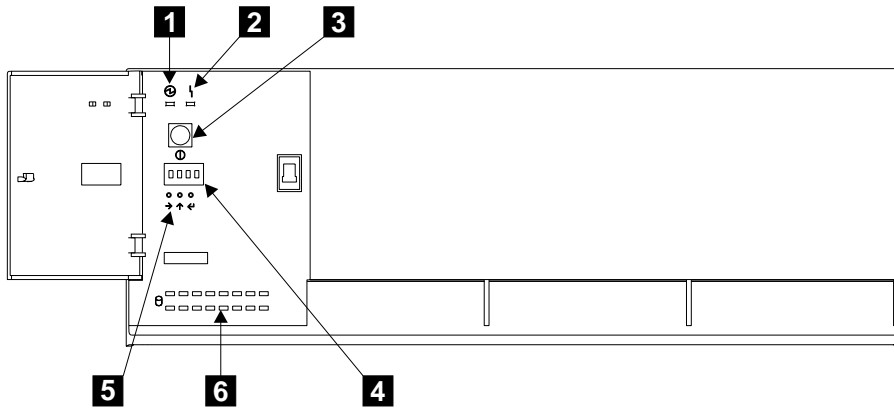

Figure 36. Checking the Lights and Switches
5. Refer to Figure 36.
When the configuration is complete, observe the 7133, and check whether the lights and the display are as described here (refer to Figure 36 on page 52):